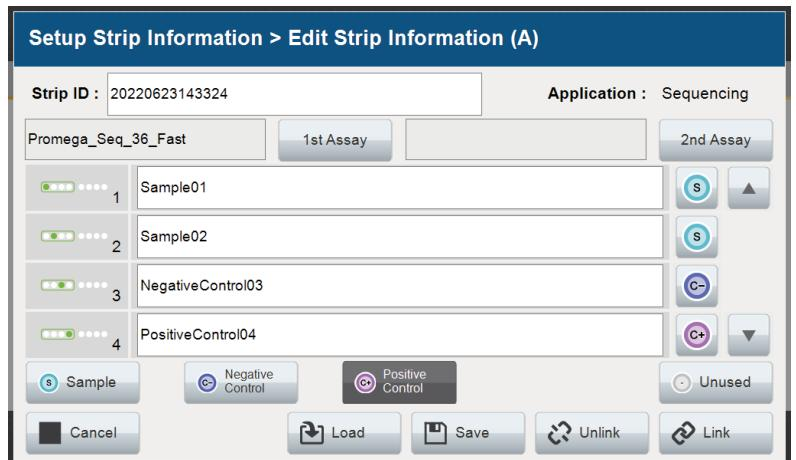

Figure 91. Completed 'Edit Strip Information' screen.
8. When all information is entered and verified for the strip, select **Link** on the lower right corner of the 'Edit Strip Information' screen (Figure 91). This will link the strip to the run. If you want to save the Strip Information to use in future runs, you will need to save the information by selecting **Save** at the bottom of the 'Edit Strip Information' screen (Figure 91). This will link the strip to the run but will also save that Strip ID so that it can be loaded later into another run (see Section 5.3.3).